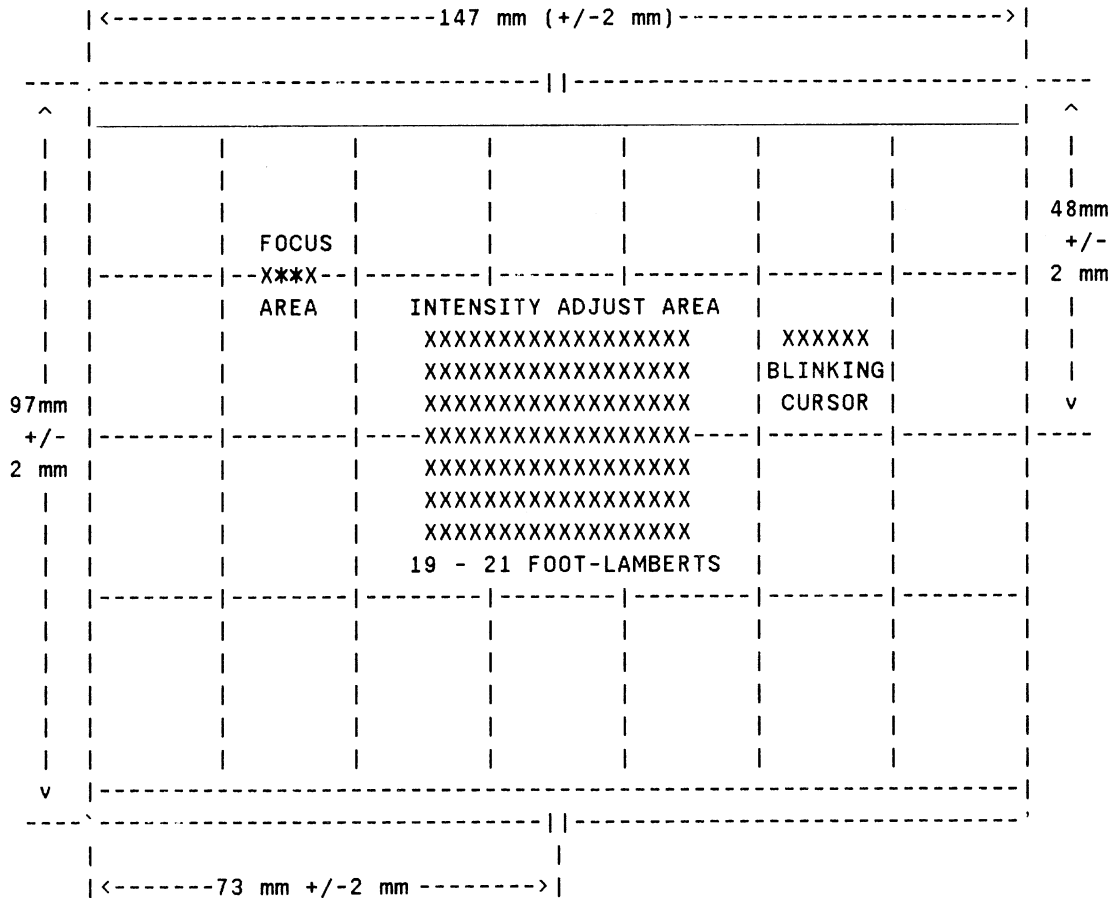

Figure 5-3. Display Test Pattern
- e. Activate the Display Test Pattern as shown in figure 5-3 by pressing the < DISPLAY > softkey on the HP85.
- g. Adjust the HEIGHT and VERT PHASE (position) until the Test Pattern fills the screen vertically. See figure 5-3.
- i. Adjust HORIZ WIDTH until the total picture width is the same as the width of the outer boundary marks given in figure 5-3. Note that the outer edges of the display may NOT align with the outer boundary marks.
- k. Adjust VERT PHASE to vertically align the Test Pattern. This should only require minor adjustments. See figure 5-3 for this measurement.